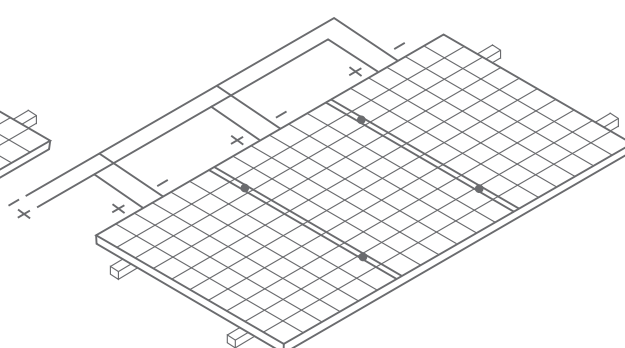

Figure 7
- When connected in parallel, the current output is equal to the sum of each string's current (shown in Figure 7). Fuse is necessary for each module string. Please take reference to the local regulation. Recommended maximum parallel Modules configurations: Fuse rating/Isc+1.